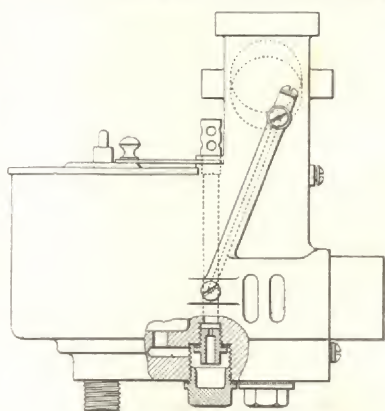

Fig. 26.
**SLOW-RUNNING DEVICE, 1911 (Models A, B and C, Fig. 26).** The slow-running was determined by a fixed pipe drawing petrol from the well at a given height above the compensator. The slow-running device in this Carburetter is not adjustable.